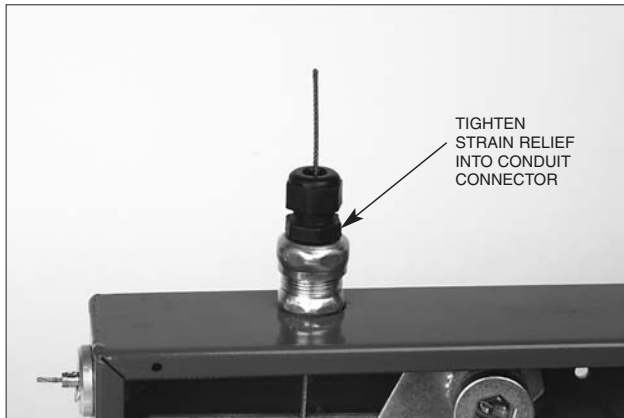

Figure 4-44.
7. Tighten the body of the strain relief to the conduit connector. See **Figure 4-44**.